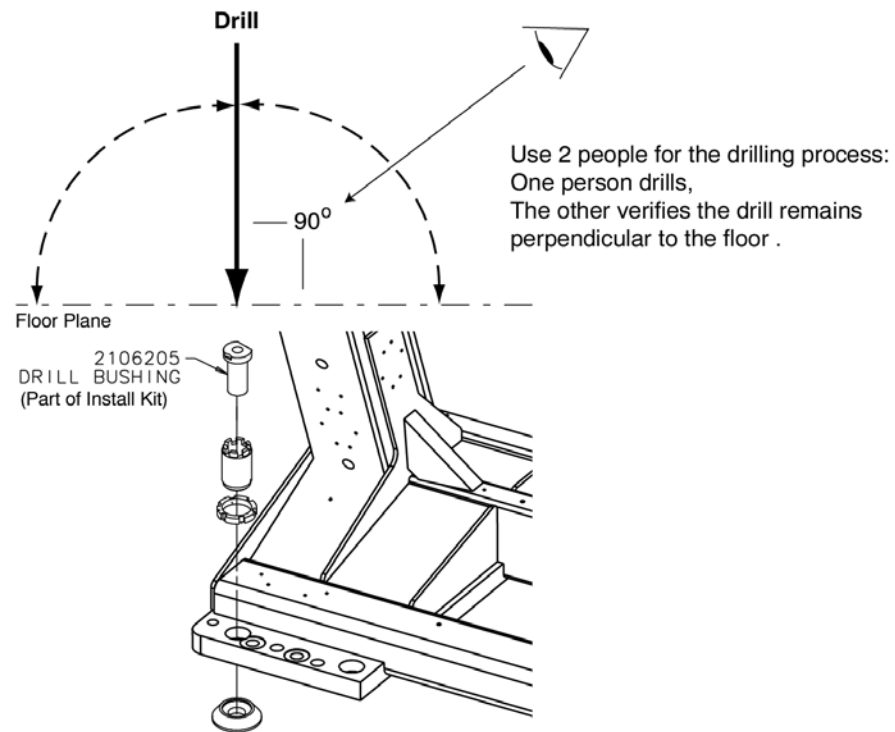
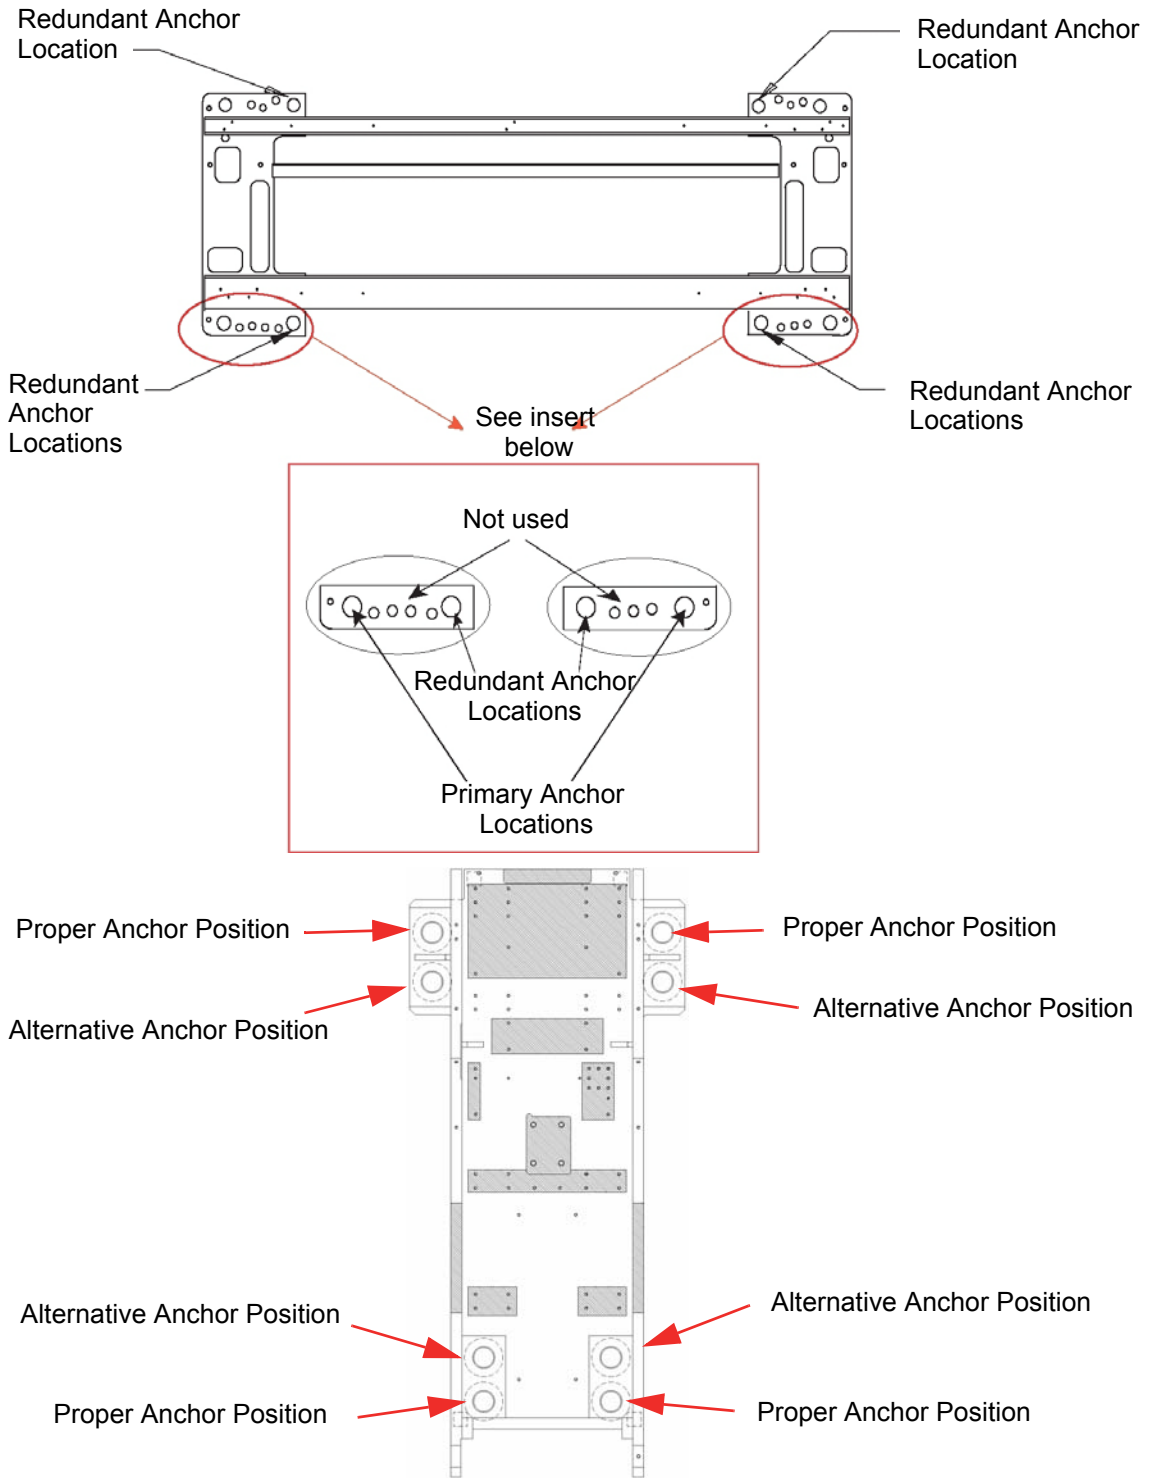

Figure 1-51 Drilling Position
Figure 1-52 Anchor Locations
- 4.) Use the 1/2" bit to drill all eight (8) anchor holes to a specified depth as measured from the top of the drill bushing. Review Figure 1-51 and Figure 1-52 prior to drilling.
If you cannot use one of the adjuster anchor holes due to structural interference, such as reinforcement bars in the concrete, you must use one of the alternate anchor locations, as shown in Figure 1-52. You must also move the respective leveler(s) and pad(s) to the new alternate location(s) and re-drill.